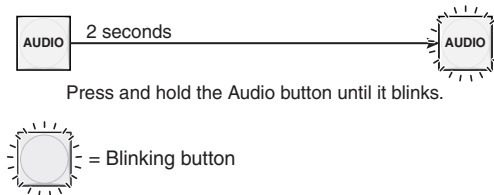

Figure 3-60 — Select Audio mode
2. Press and **hold** the Audio button for approximately 2 seconds (figure 3-60).